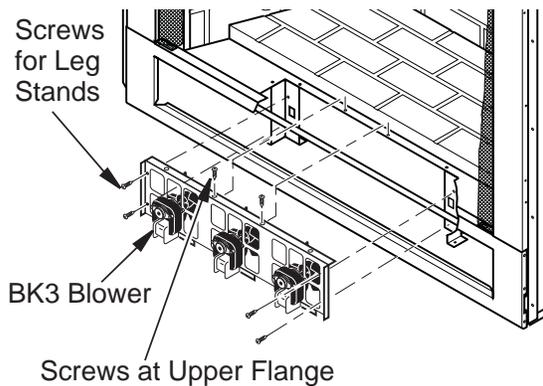

Figure 19 - Mounting BK3 Blower
1. Place BK3 fan assembly between two leg stands with fan blades pointing toward rear of fireplace (see **Figure 19**).
2. Using screws provided, fasten upper flange of blower bracket to hearth pan and end flanges to leg stands (see **Figure 19**).